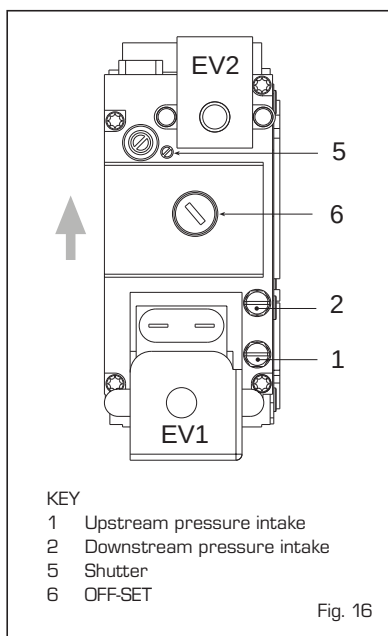

Fig. 16
4.1 GAS VALVE (fig. 16)
The boiler is supplied as standard with a gas valve, model SIT 822 NOVAMIX (fig. 16).
3) Identify the CO₂ values at max. power by adjusting the shutter (5 fig. 16):
5) Identify the CO₂ values at min. power by adjusting the OFF-SET regulation screw (6 fig. 16):